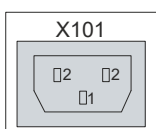

Fig. 3: C6650\_voltage socket 100-240 V
The power supply is connected via the IEC socket (X101) on the top of the industrial PC. The assignment includes a protective conductor (1), a neutral conductor (2) and an outer conductor (2) (see Fig. 3).